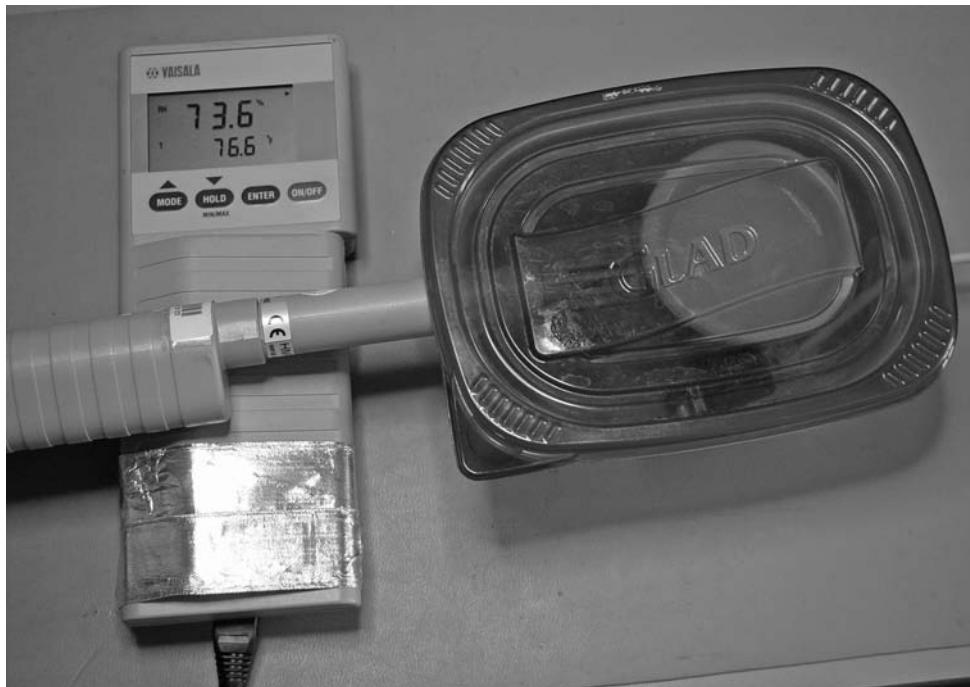

FIGURE 7-8: High humidity setup after 12-hour soak.
16. Check the humidity level. It should be somewhere near 75%. Record the value. In my calibration, the measured value was 70%. In Figure 7-8 the reference probe measured 73.6% RH, pretty close to the expected 75%.